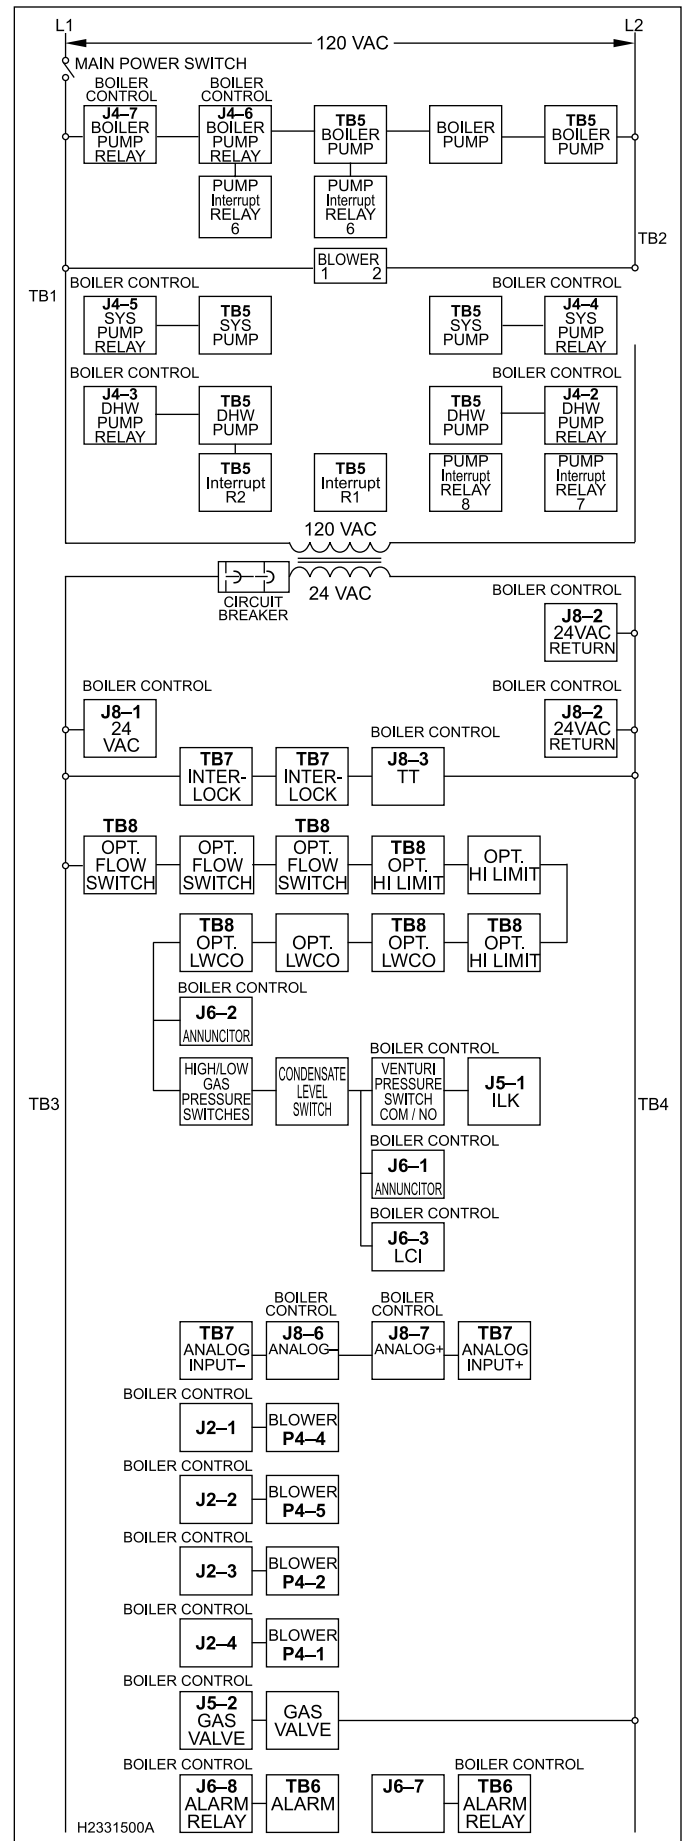

Figure 29. Ladder Diagram.
Wiring connections are shown in Figures 29 and 30.
7.11 Wiring Diagrams (see Figures 29 and 30)
LBT	Low boiler setpoint during outdoor reset see Figure 29
HOD	High outdoor temperature setpoint see Figure 29
LOD	Low outdoor temperature setpoint see Figure 29